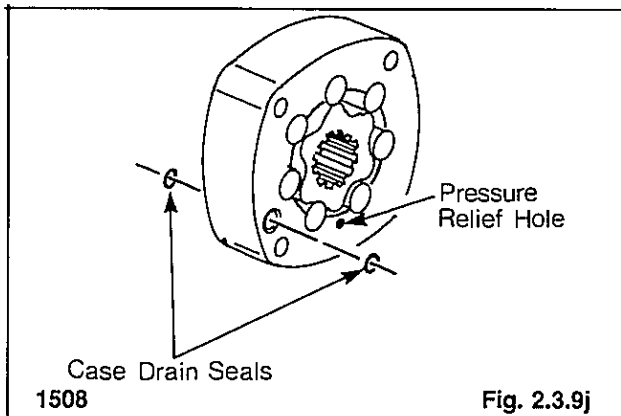

Fig. 2.3.9j
13. Apply petroleum jelly to the two case drain seals and install them on both sides of the geroler assembly (fig. 2.3.9j) in the case drain hole grooves.
14. Align the case drain hole and pressure relief hole in the geroler assembly with the case drain hole and pressure relief hole in the bearing housing (fig. 2.3.9j). Install the geroler assembly on the bearing housing.